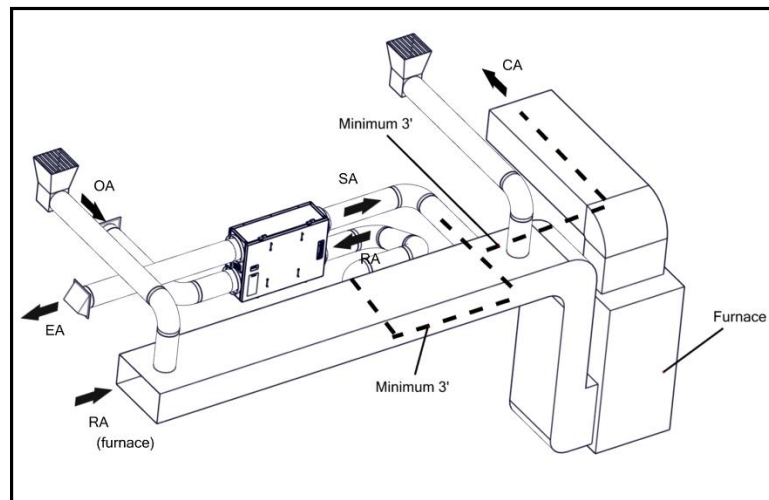

FIGURE 2.2.2 FURNACE RETURN AIR BACK INTO RETURN AIR
**NOTE:** For the setup in Figure 2.2.2, the furnace blower must be operated any time the ERV is operated. Use furnace fan “on” continuous low speed or optional FM control to cycle furnace fan on ERV.